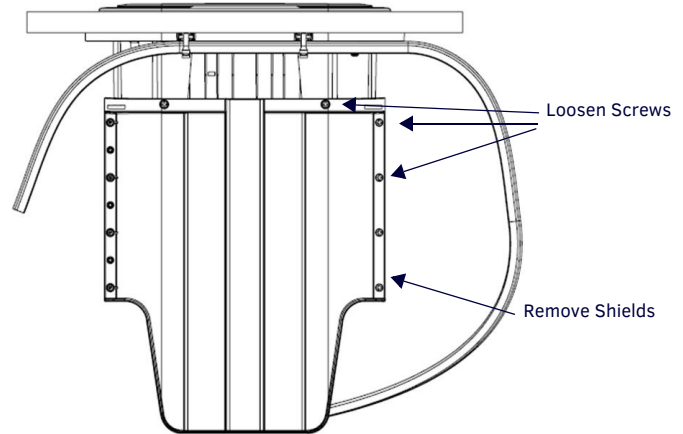

FIG. 3 REMOVE SHIELDS
2. Remove the shields if they are installed by loosening the #6 Screws near the top of the shields (FIG. 3):